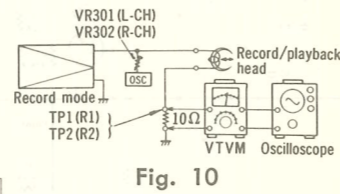

Fig. 10
<p>Ⓒ Bias current</p> <p>Condition:</p> <ul style="list-style-type: none"> <li>* Record mode</li> <li>* Tape selector <ul style="list-style-type: none"> <li>... Normal position</li> <li>... CrO2 position</li> <li>... Metal position</li> </ul> </li> </ul> <p>Equipment:</p> <ul style="list-style-type: none"> <li>* VTVM</li> <li>* Oscilloscope</li> </ul>	<ol style="list-style-type: none"> <li>1. Test equipment connection is shown in fig. 10.</li> <li>2. Place UNIT into record mode, and tape selector to normal position.</li> <li>3. Read voltage on VTVM and calculate bias current by following formula: <math display="block">\text{Bias current (A)} = \frac{\text{Value read on VTVM (V)}}{10 (\Omega)}</math> </li> </ol> <p style="text-align: center;">Standard value: around 400<math>\mu</math>A (Normal position)</p> <p style="text-align: center;">Standard value: around 550<math>\mu</math>A (CrO2 position), around 830<math>\mu</math>A (Metal position)</p> <ol style="list-style-type: none"> <li>4. If measured value is not within standard, adjust VR301 (L-CH) and VR302 (R-CH) (See fig. 1 on page 3).</li> <li>5. Set the tape selector to each position.</li> <li>6. Make sure that the measured value is within standard.</li> </ol>